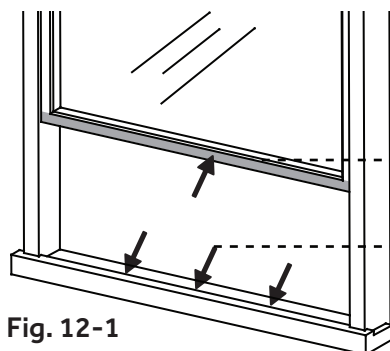

Fig. 12-1
6. Apply the weather seals provided to the bottom, top & sides of the window to seal around the perimeter of the air conditioner. (Fig 12-1 & 12-2)